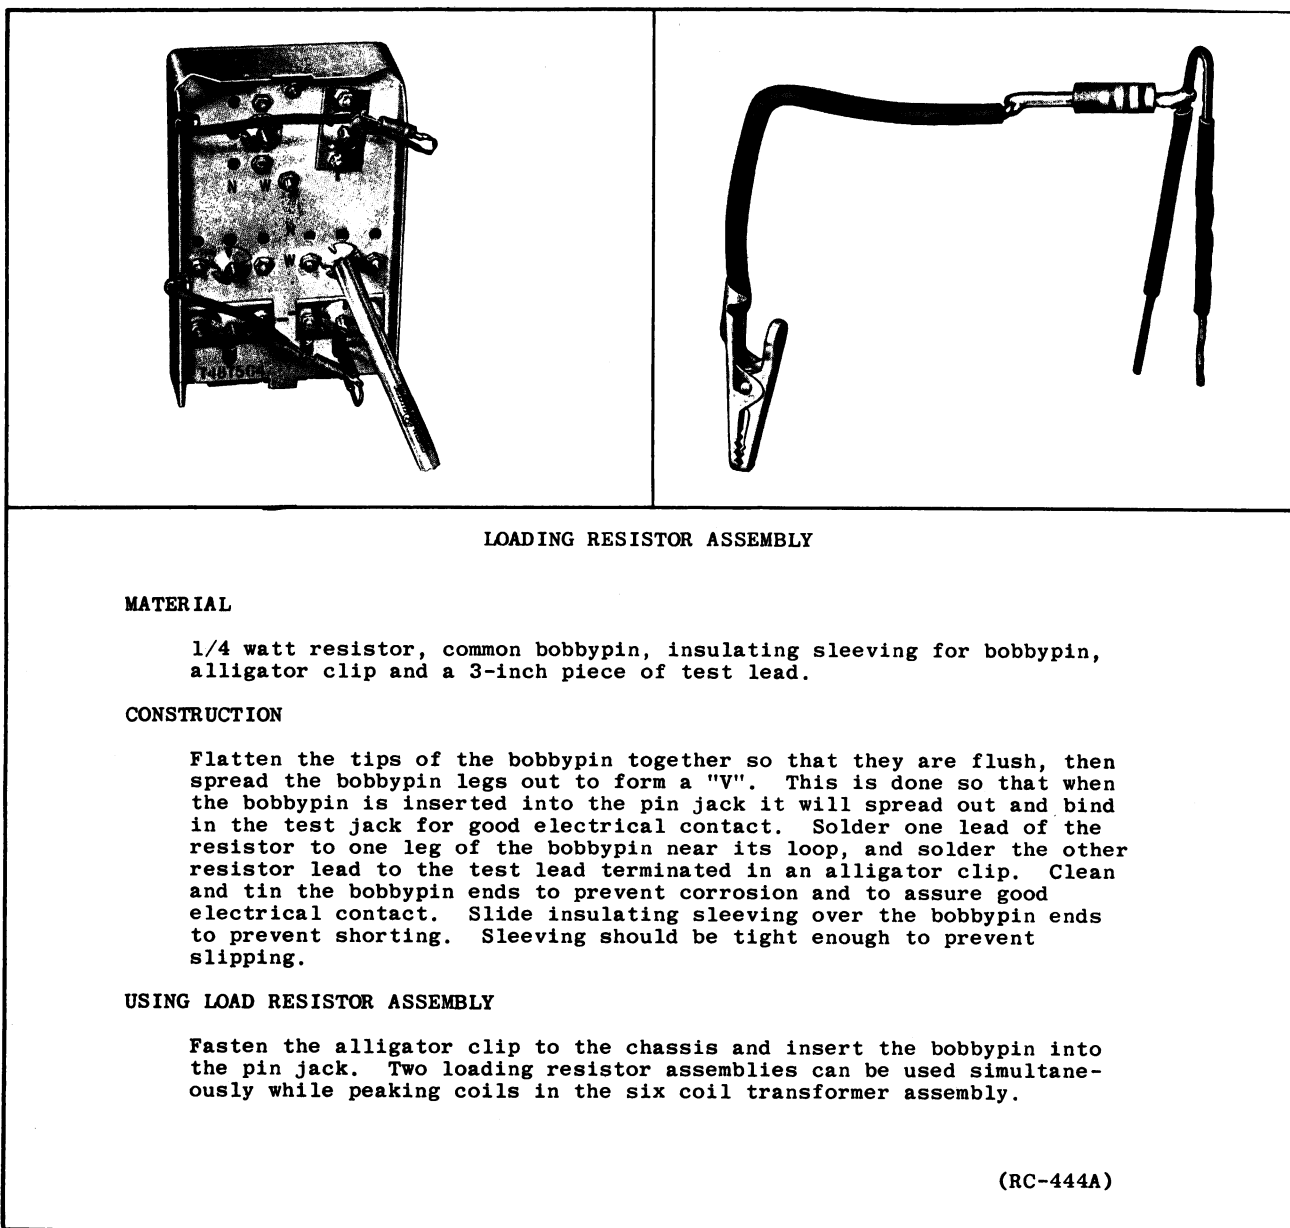
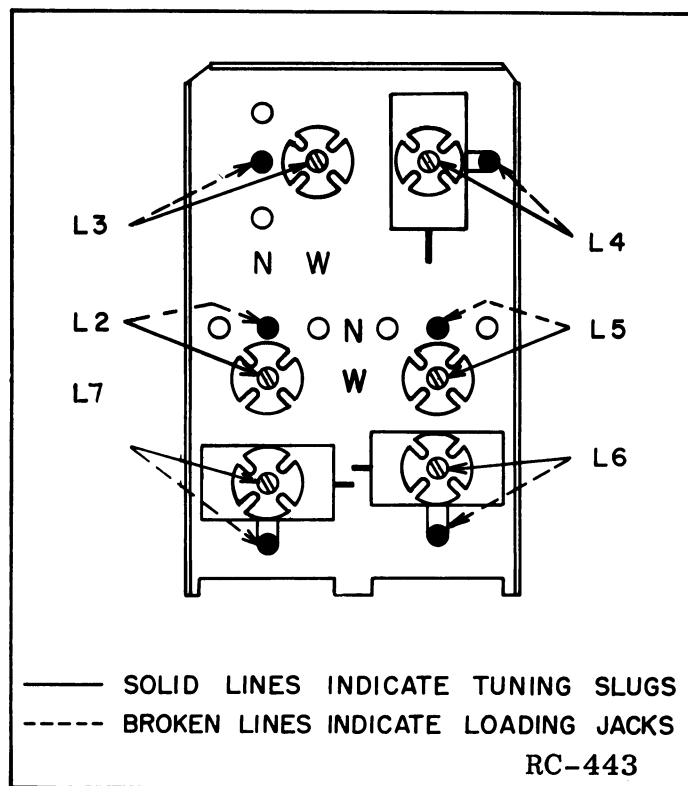

FIG. 1
FIG. 2 Location of Tuning Slugs and Jacks,
4. Two 22,000-ohm load resistor assemblies made up as shown in Fig. 1 (required for resistor loading method).
3. Refer to Fig. 1 for proper use of load resistors and Fig. 2 for location of coils and loading jacks.
1. Locate tuning slugs and pin jacks as shown on Fig. 2.